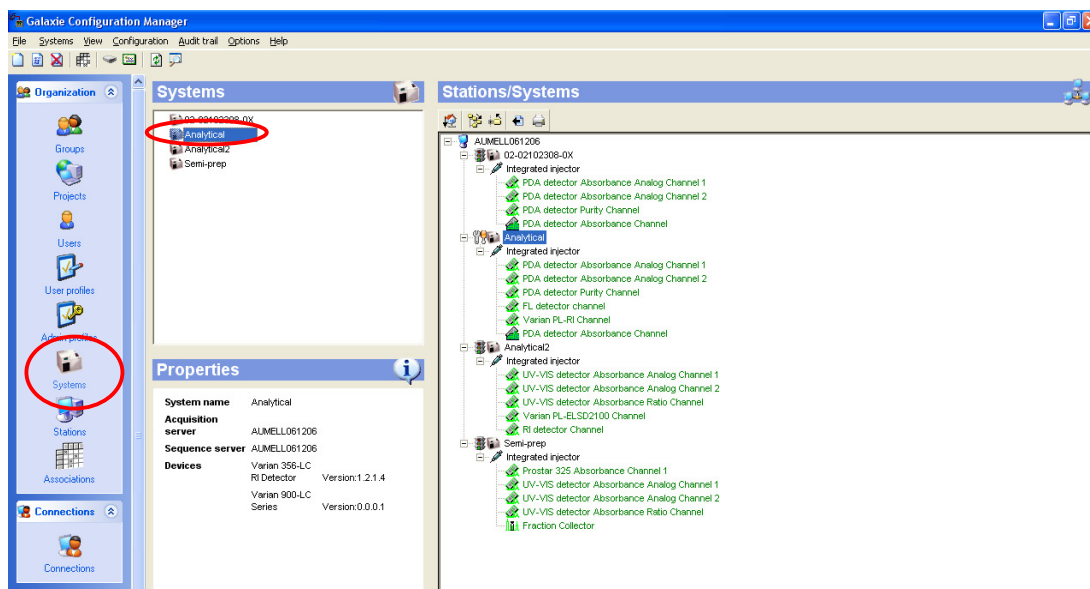

Figure 16: Select the system to be edited
1. Open Galaxie configuration manager. The page default opens up at the group page. Click on the Systems icon on the left hand side (*Fig. 16*). Select the system that requires the syringe volume to be changed (in this example the Analytical). Double click on the system.